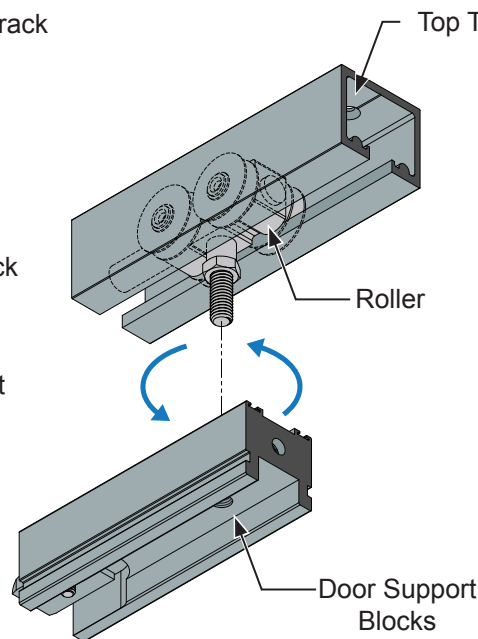

Fig. 2
2. Remove the door support blocks by turning the door support block counter clockwise. **(Fig. 2)**